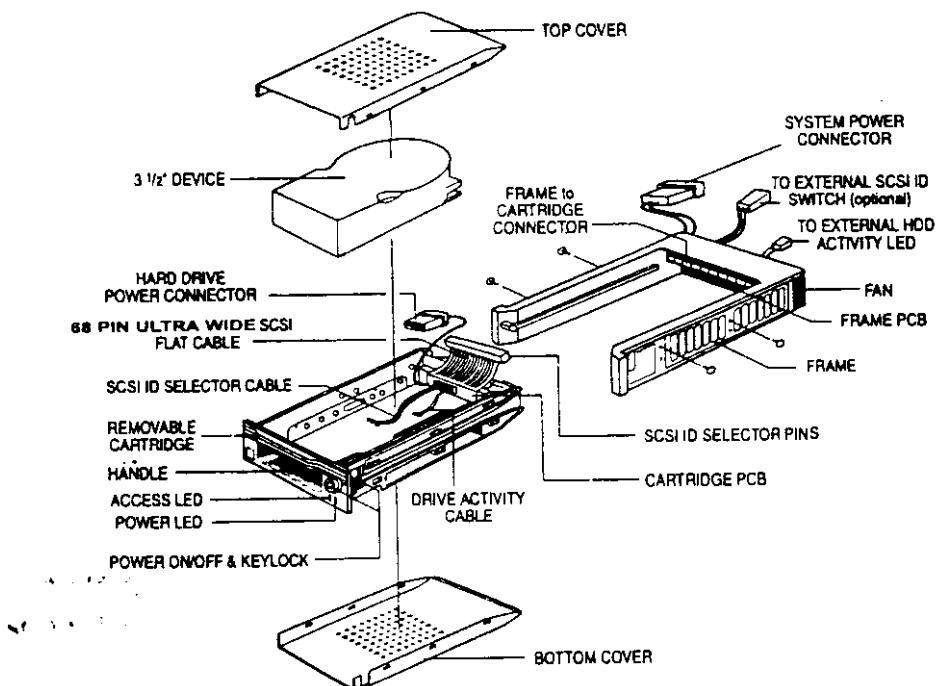

Figure 2.3 Mobile Rack Explosion of Parts
- Open the cartridge by removing the top and bottom covers. See Figure 2.3 for an explosion of the Mobile Rack components. The metal covers snap securely into place on the cartridge without screws, but may require extra force or the use of the included canister opener to remove in some cases.